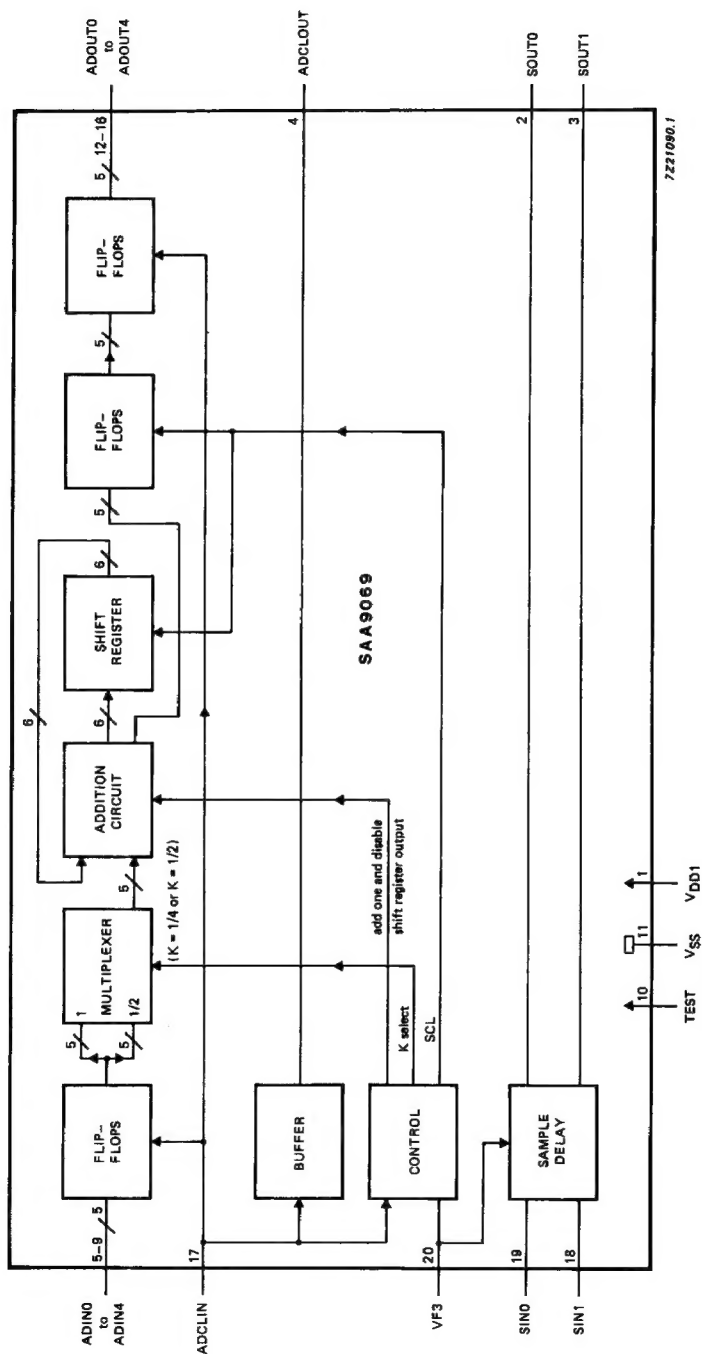

Fig. 1. Block diagram.
**FUNCTIONAL DESCRIPTION** (see Figs 1 and 3 to 7)